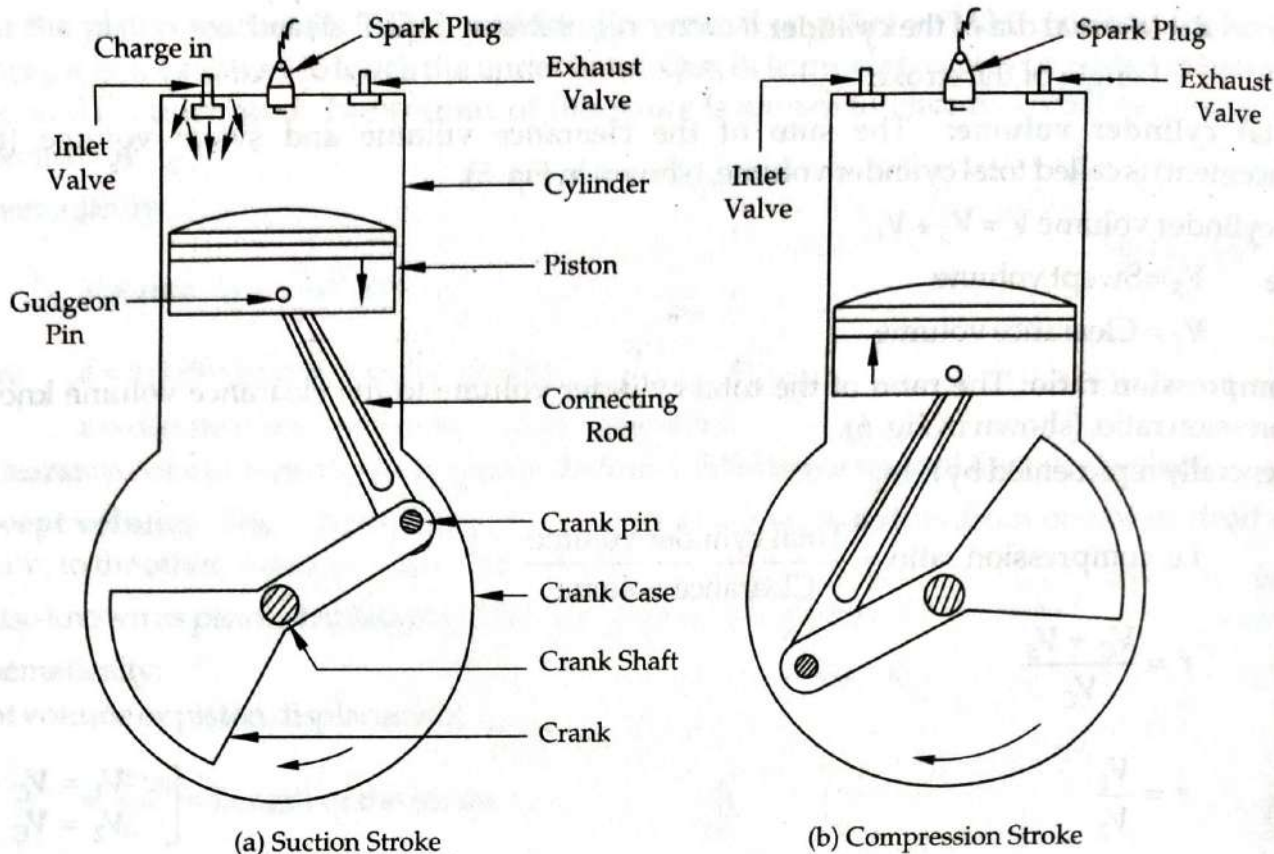

Fig. 7 Working Principle of a four stroke petrol engine
1. Suction stroke: The suction stroke starts with the piston at top dead centre position. During this stroke, the piston moves downwards by means of crankshaft which is rotated either by the momentum of the flywheel or with the help of starter motor or by hand. The inlet valve is opened and the exhaust valve is closed. The partial vacuum created by the downward movement of the piston, sucks in the fresh charge (mixture of air and petrol) from the carburettor through the inlet valve. The stroke is completed during the half revolution (180°) of the crankshaft, which means at the end of the suction stroke, piston reaches the bottom dead centre position. (Shown in Fig. 7(a)).
2. Compression stroke: During this stroke the inlet and exhaust valves are closed and the piston returns from bottom dead centre position. The piston is still driven by the momentum of the flywheel. As the piston moves up, the charge is compressed. During compression the pressure and temperature rises. This rise in temperature and pressure depends upon the compression ratio. (in petrol engines the compression ratio generally varies between 6 : 1 and 9 : 1). Just before the completion of the compression stroke, the charge is ignited by means of an electric spark, produced at the spark plug, (shown in Fig. 7(b)).